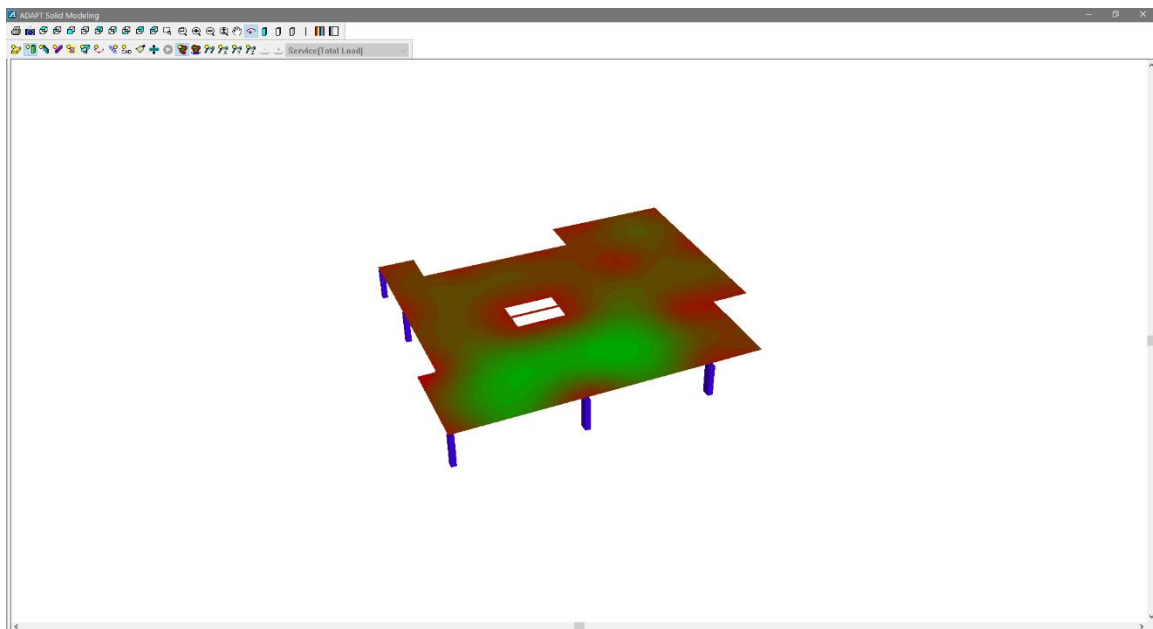

Figure 3-10
- If we left click on the screen and hold the left click button of the mouse you can then rotate the model with movements from the mouse. Rotate the model so that the view is similar to that shown in **FIGURE 3-10**.